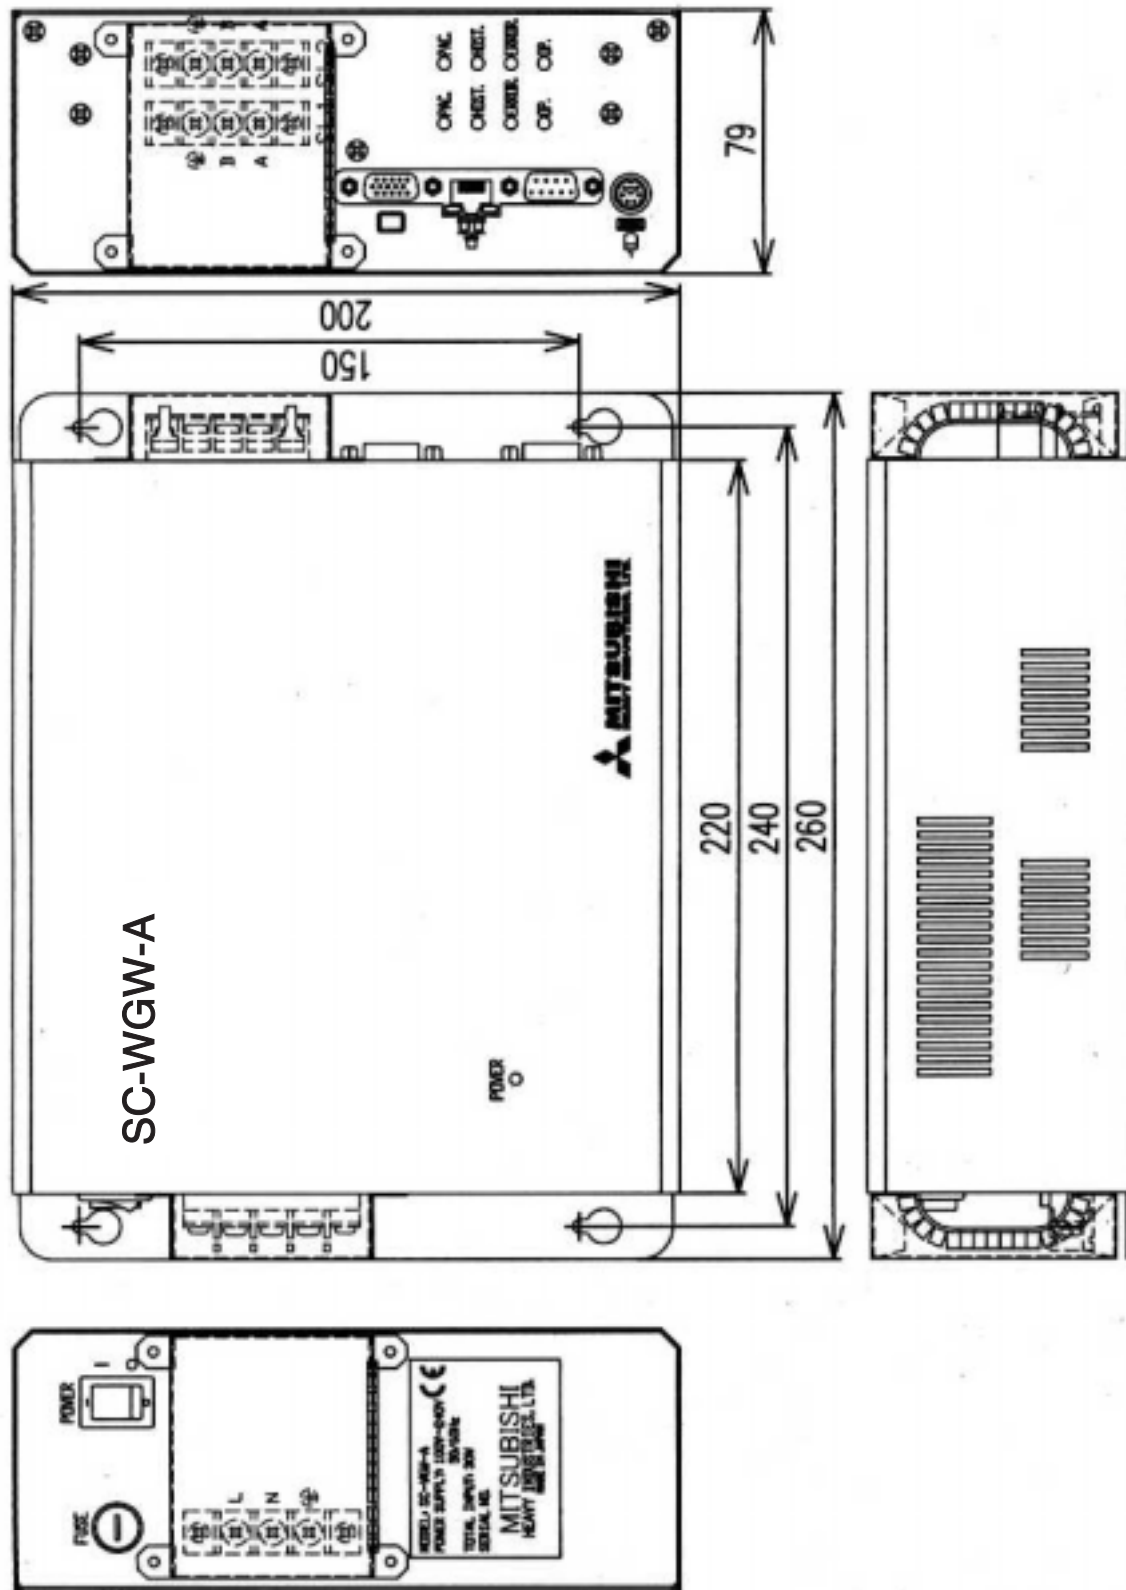
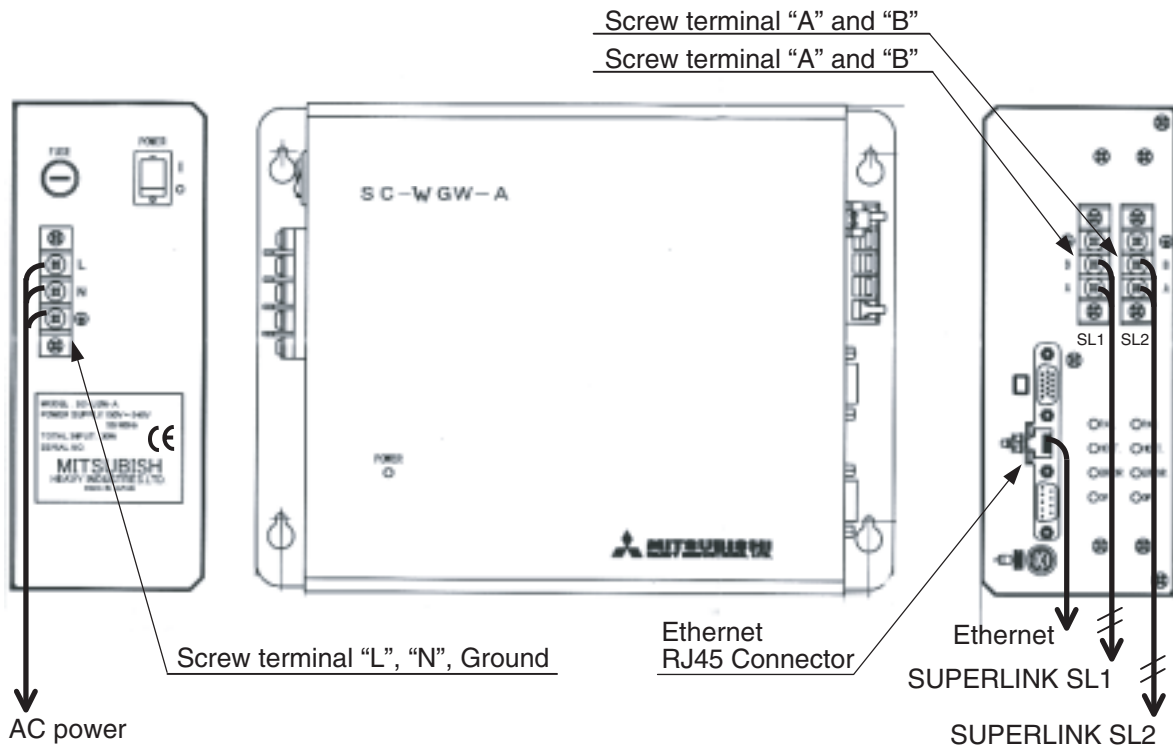

Fig. 5.3 Outline Drawing of SC-WGW-A
Fig. 5.4 SC-WGW-A Wiring
(3) Appearance
- Outline drawing : Fig 5.3 on the following page
- Outline dimensions : 260(W) × 200(H) × 79(D) mm
The Fig 5.4 shows the wiring of this Gateway. After wiring to the WEB Gateway, the terminal covers, which are included in this Gateway's product package, should be installed by screws as shown in the Fig 5.3. After wiring work finished, fix the terminal covers securely by the screws